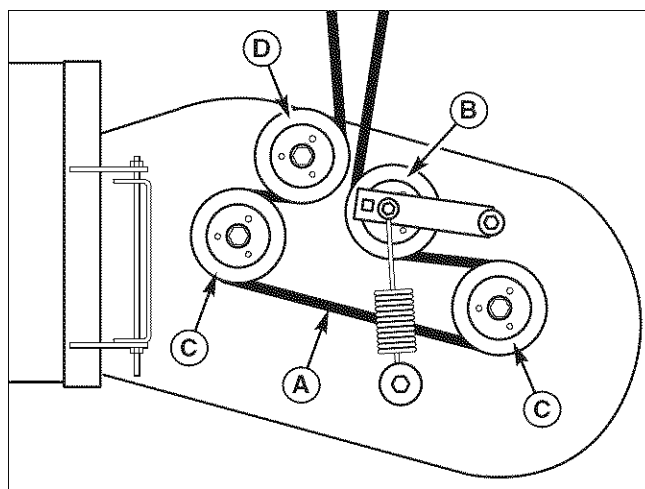

Figure 9. Mower Deck Belt Routing
5. Carefully rotate the breaker bar CLOCKWISE and install the drive belt on the stationary idler pulley. Carefully release the tension on the breaker bar. The belt should be routed exactly as shown in figure 9.